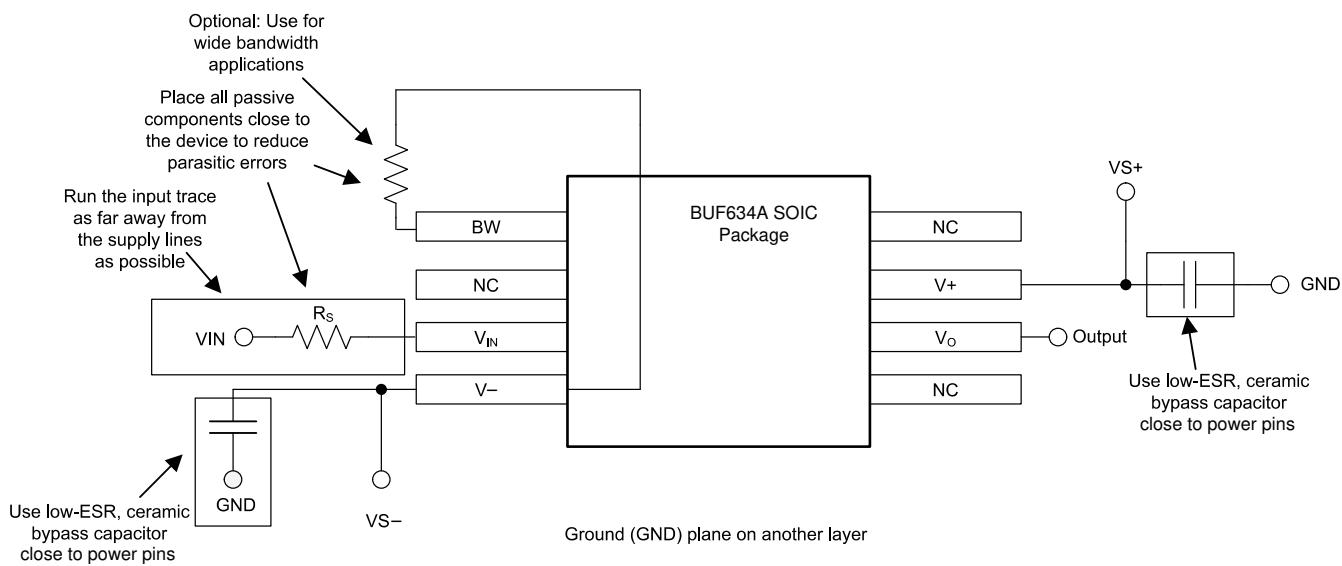

图 11-2. BUF634A Layout Example (SOIC)
- Place the external components as close to the device as possible, as illustrated in 图 11-2.